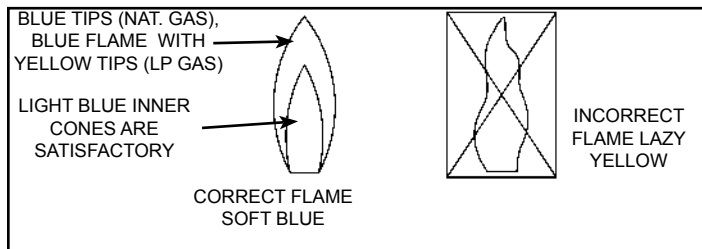

Figure 36
Inspect the burner flames through the viewport and compare them to the drawings in Figure 36. A properly operating burner should produce a soft blue flame. Blue tips with light blue inner cones are satisfactory. The tips of the flame may have a slight yellow tint. The flame should not be all yellow or have a sharp blue-orange colour. Contaminated air may cause an orange coloured flame. Contact a qualified service technician if the flame is not satisfactory.
- Build up of soot and carbon on the main burner. Check for a soft blue flame (see Figure 36).
At least once a year a visual inspection should be made of the main burner and the hot surface igniter assembly for proper flame characteristics and ignition sequences. This can be done by removing the outer door and viewing the main burner operation through the viewport on the inner door (see Figure 4). The main burner should provide complete combustion of gas, ignite rapidly, give reasonably quiet operation, and cause no excessive flame lifting from the burner ports. If the proper flame characteristics are not evident (see Figure 36), make sure that the flow of combustion and ventilation air is not blocked.